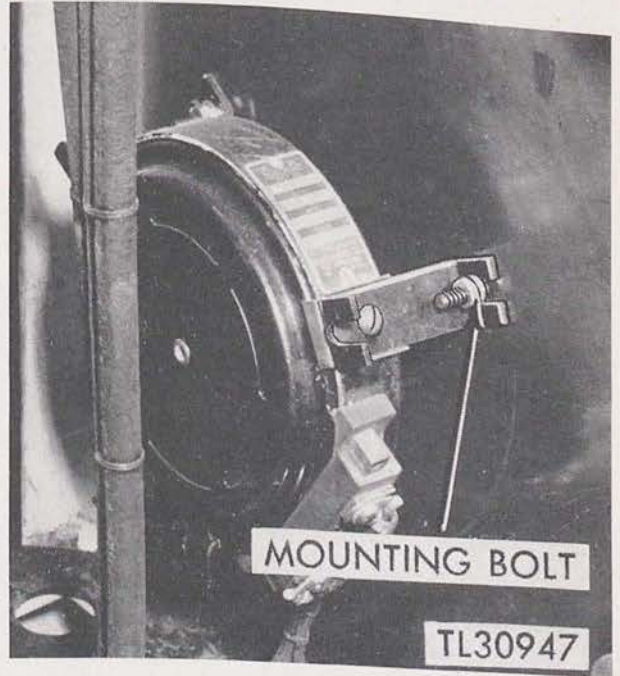

Figure 100. Rectifier RA-60-A, showing location of filament rheostat 8.
(1) Remove the mounting bolts, washers, and nuts (fig. 100).
(2) Grasp the filament rheostat (from the back) and move it slightly, away from the support.
(3) Turn the filament rheostat counterclockwise to expose the two terminals.
(4) Remove the bolts from the front and rear terminals.
(5) Remove and tag the leads.
(6) Lift the filament rheostat out of the unit.
(7) Remove the bolts from the mounting brackets.
(8) Remove the brackets and holders.
(9) Remove the cover plate.